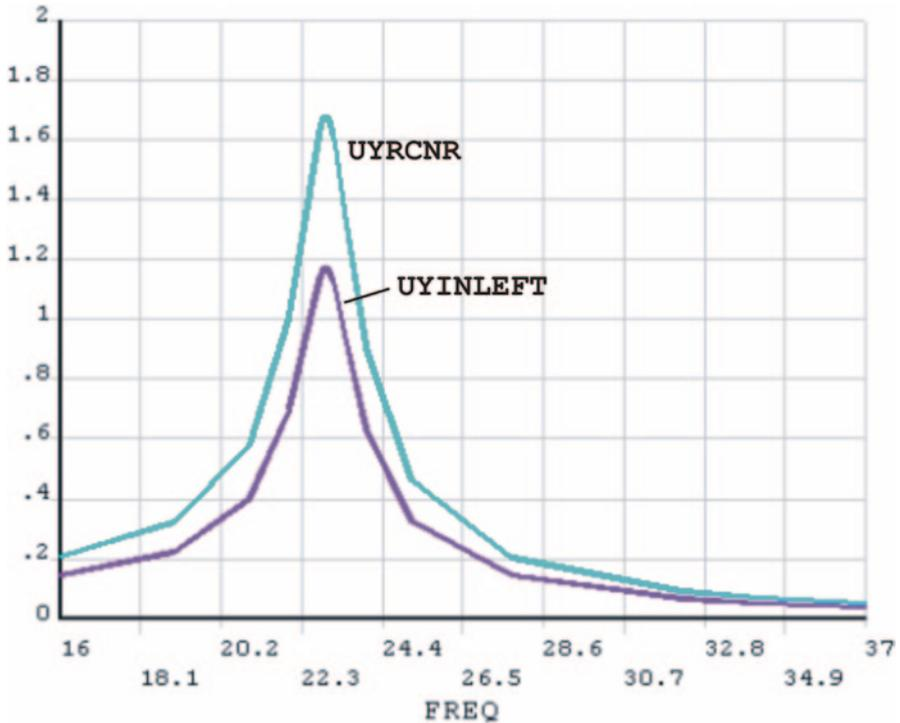

Fig. 8.88 Close-up view of amplitudes of the displacements at two locations as functions of frequency under harmonic loading
- The plot appears in the *Graphics Window*, as shown in Fig. 8.88.